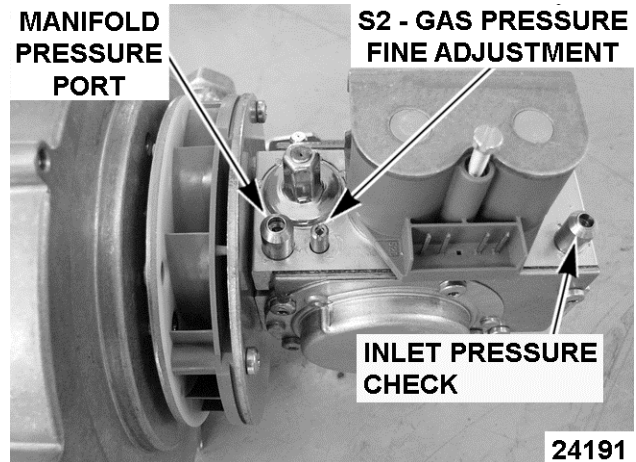

Fig. 45
10. Turn fine adjustment screw on gas valve clockwise all the way in. (Fig. 45)
11. Adjust gas valve fine adjustment screw for type of gas. (Fig. 45)